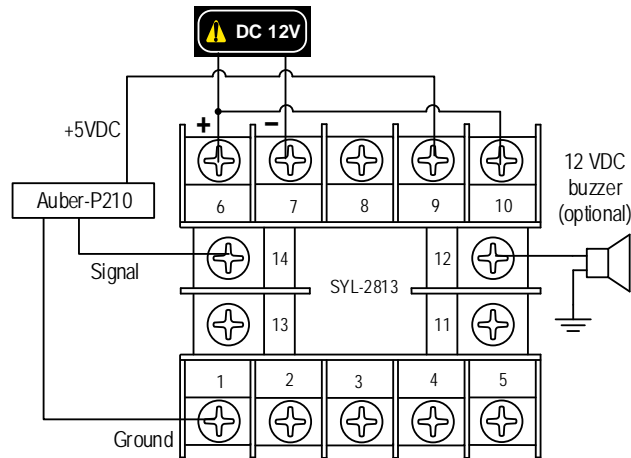

Figure 1. SYL-2813 wiring example of P210 pressure sender in Channel 2.
- 1) Wiring the sensor as shown in Figure 1. Connecting power lead (red or brown) to terminal 9 which provides +5V DC, signal lead (green or blue) to terminal 14 for Channel2, and ground lead (black) to terminal 1. The 12V DC buzzer is optional.